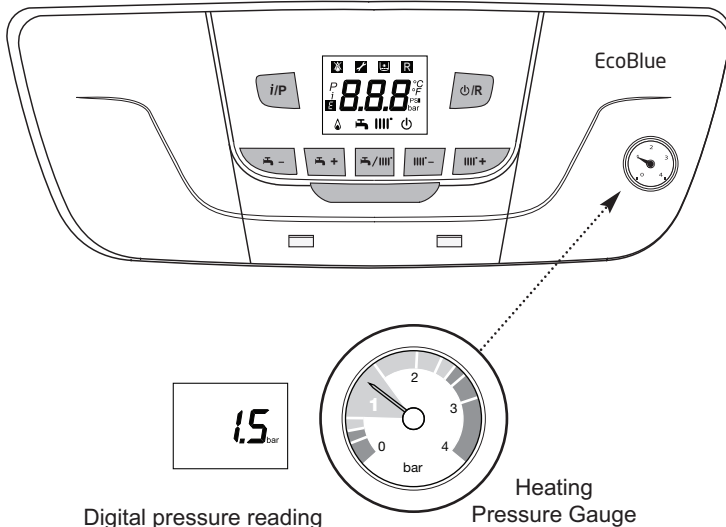

Fig. 38
5. Pressurise the system to 1.5 bar (Fig. 38) then close and disconnect the filling loop.